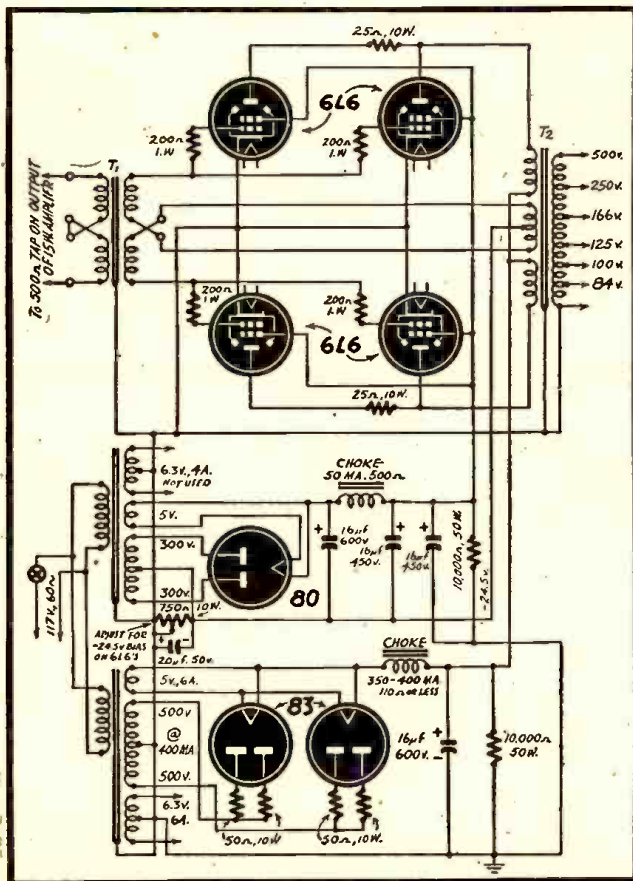

Fig. 2—High-power amplifier stage for class-B operation.
**A.** The diagram (Fig. 2) shows a 100-watt amplifier with power supply. If you have a good 15 watt driver, it should give more than ample power for driving the booster. Perhaps you have a power supply but a good one has been shown so that you may check it. Approximately 400 milliamperes plate current are required by the 6L6's at maximum signal. The grid bias voltage should be adjusted before the plate voltage is applied. In construction you may find that the grid, screen, and plate leads need shielding. The diagram will clear up any other questions you may have in mind.